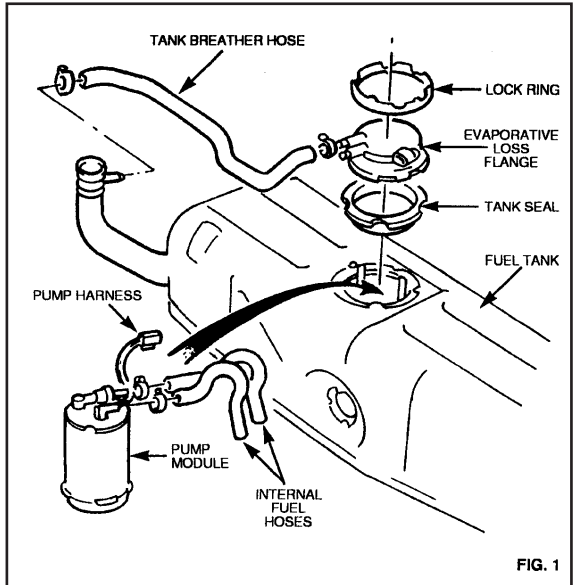

FIG. 1
- A) Remove locking ring from evaporative loss flange, (see Fig. 1).